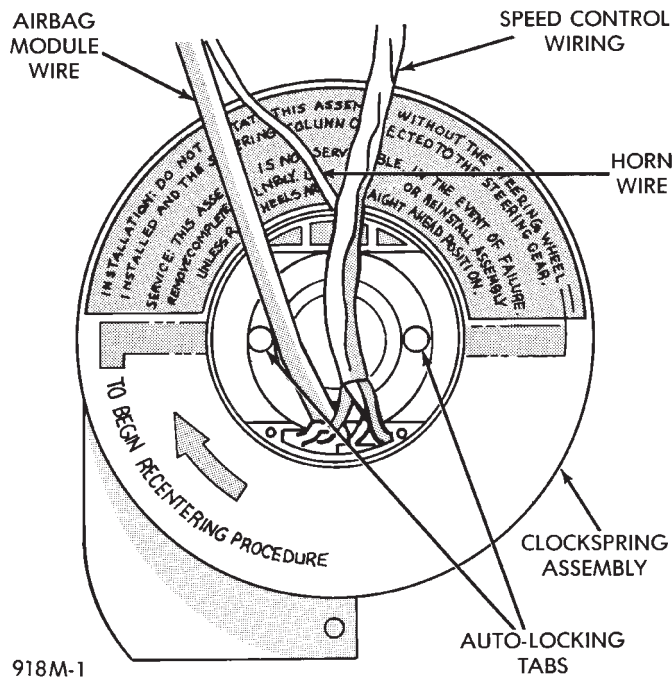

Fig. 10 Clockspring (Auto-Locking)
(1) Place front wheels in the straight ahead position.
(2) Wait two minutes for the reserve capacitor to discharge before removing undeployed module.
(3) Refer to Steering Wheel procedures for removal of air bag module and steering wheel.
(4) Depress the two plastic locking pins to disengage locking mechanism (Fig. 10).